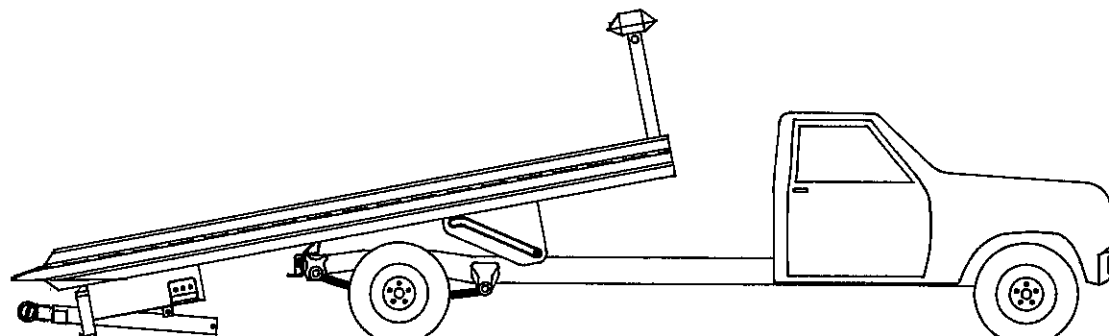

Figure 6-2.13
- 6-2.13 Slide the bed to the full forward position. (See fig. 6-2.13)